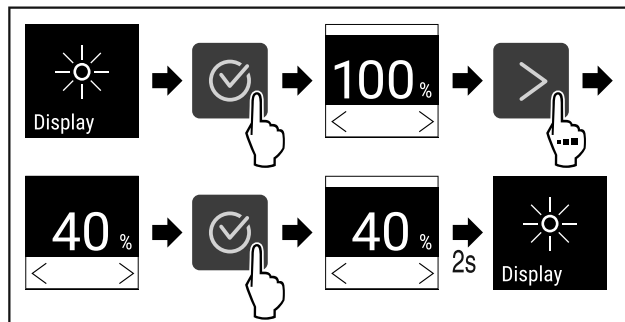

Fig. 82
- ▶ Complete the steps (see Fig. 82).